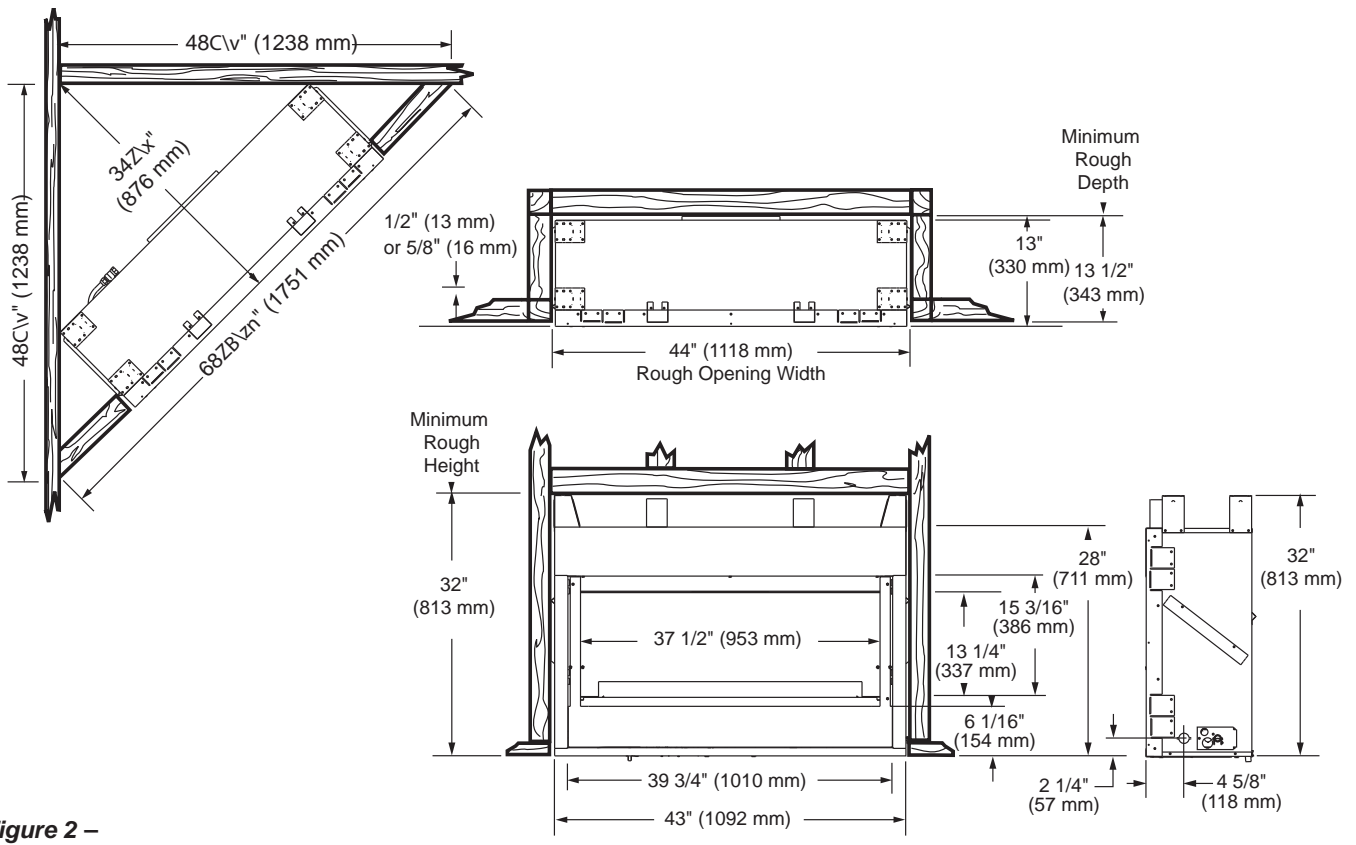
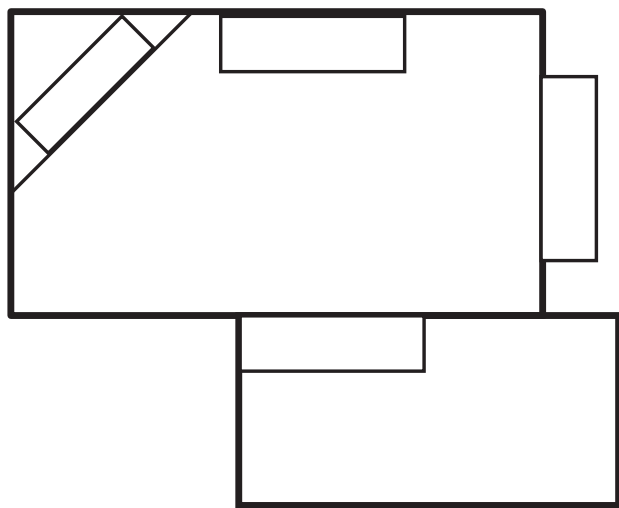
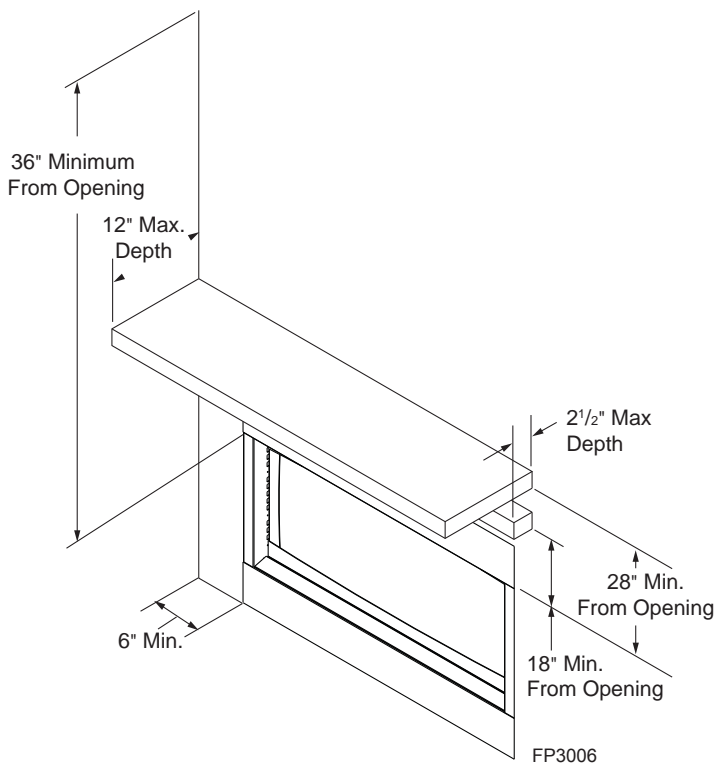

Figure 2 –
Figure 3 – Possible Fireplace Locations
Figure 4 – Sidewall and Ceiling Clearances
1. Position fireplace in desired location. Refer to the *Fireplace Location* (page 8, Figure 3) and *Clearances and Height Requirements* (page 9, Figures 4 and 5) sections and *Fireplace and Framing Dimensions* (page 6, Figure 2) illustration found in this manual.
- Minimize modifications to existing construction. Refer to *Figure 3* below for location suggestions.
Ensure that minimum clearances shown in *Figures 4 and 5* are maintained. Left and right clearances are determined when facing the front of the firebox.
Sidewall Clearances — The clearance from the inside of the appliance to any combustable adjacent wall should not be less than 6". *Figure 4*
Ceiling Clearance — The ceiling or any other combustable material must be at least 36" from the firebox opening. *Figure 4*
The dimensions shown in *Figures 4 and 5* are minimum clearances to maintain when installing this heater. Left and right clearances are determined when facing the front of the heater.
Mantel clearances — Must meet the clearance requirements detailed in *Figures 4 and 5*.